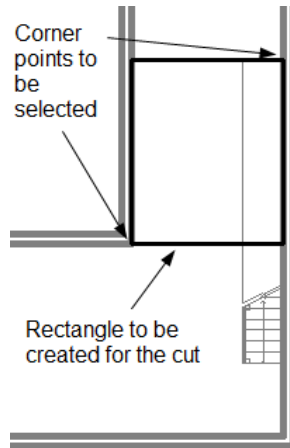

*Figure 3-51 Starting point of the stairs*
3. Select a starting point for stairs and align it with the adjacent wall, refer to Figure 3-51.